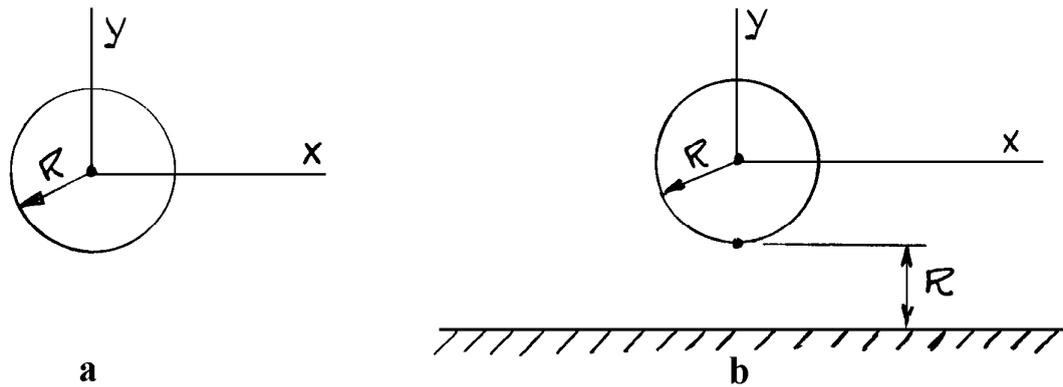

Figure 0.1: Horizontal Cylinder
- b) The cylinder is located in a uniform flow without any boundaries; see figure 0.1-a.
- c) The cylinder is located on a constant distance R above the sea bed; see figure 0.1-b. What is the velocity along the cylinder surface at $x = 0$ and $y = \pm R$?